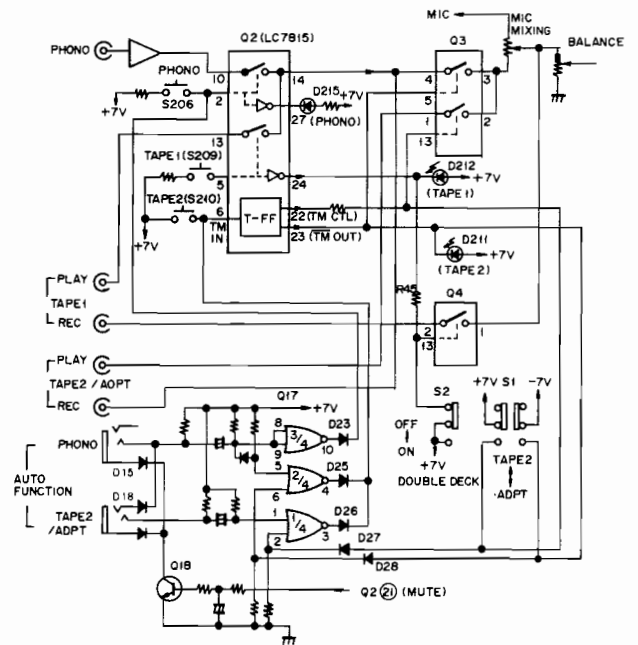

Fig. 8-11 Function Switching
**Automatic Switching (see block diagram in Fig. 8-11)**
**Automatic stopping of Tape Deck and Record Player (see Fig. 8-11)**
**Synchronized Tape Deck Start (see Fig. 8-11)**